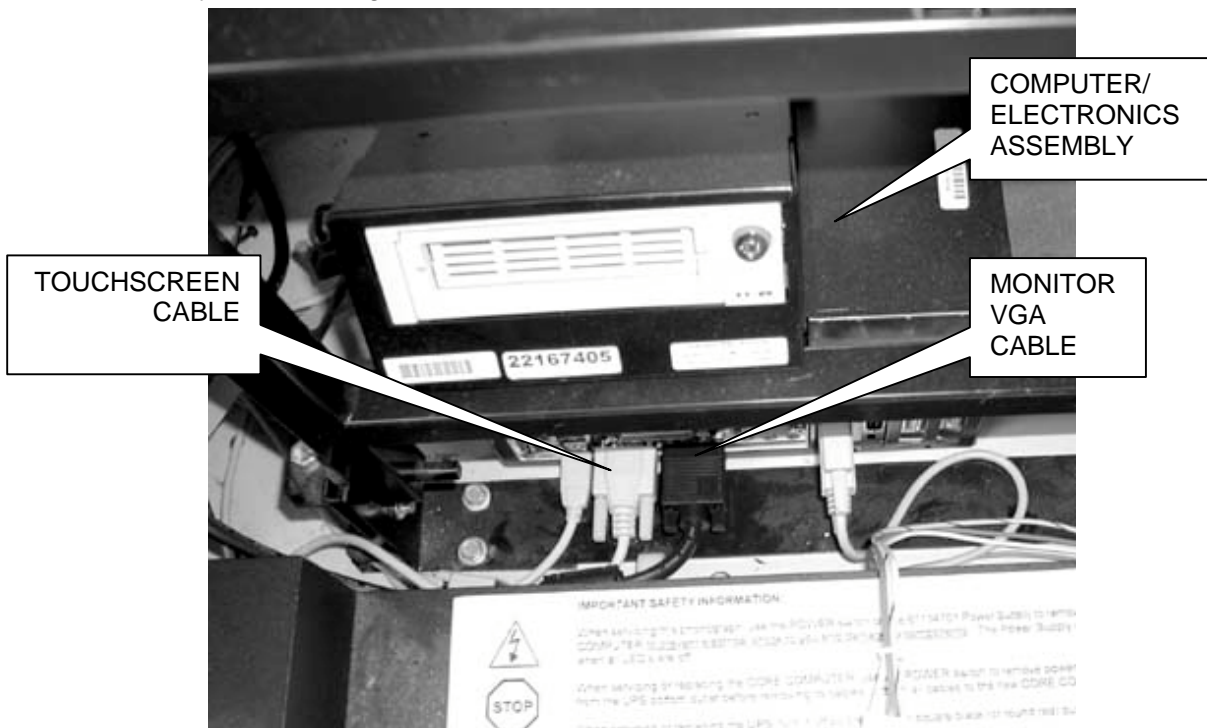

Figure 3 - Removing the Monitor VGA and Touchscreen Cables
4. Remove the Touchscreen and Monitor VGA cables from the Computer/Electronics Assembly. Refer to *Figure 3*.